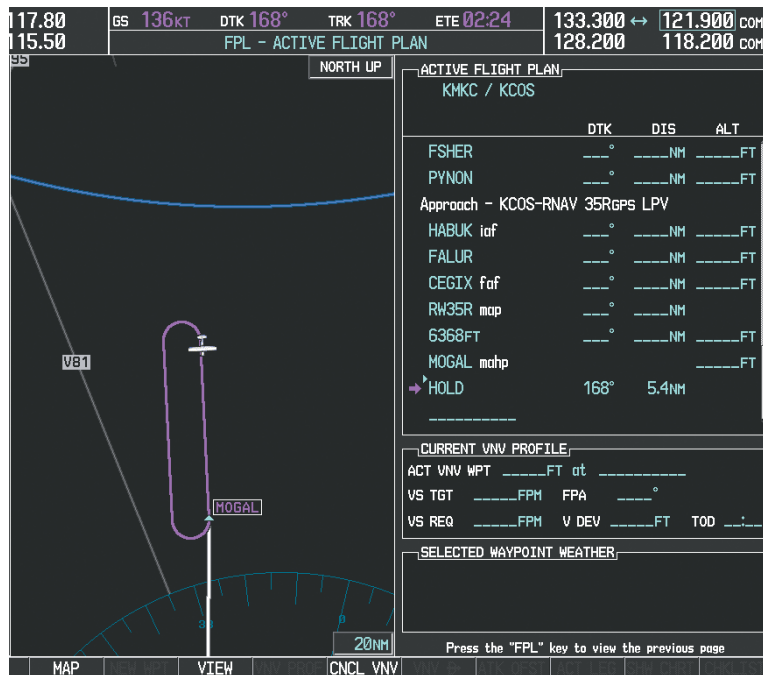

Figure 5-145 Hold Established
- 27) The aircraft maintains 10,000 feet while following the magenta line through the hold as in Figure 5-145.